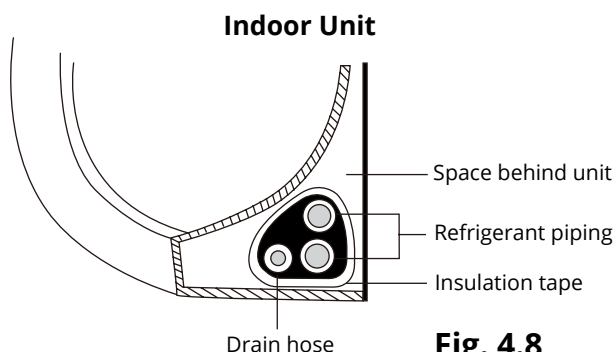

Fig. 4.8
1. Bundle the drain hose and refrigerant pipes according to **Fig. 4.8**.
3. Using insulation tape, wrap the refrigerant pipes and drain hose tightly together. Double-check that all items are bundled in accordance with **Fig. 4.8**.